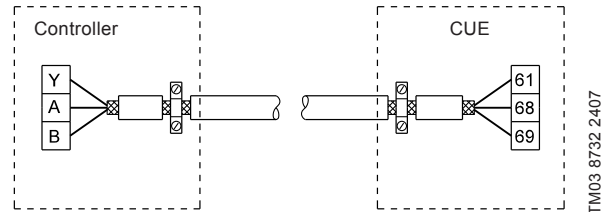

Fig. 47 Example of connection of a 3-conductor bus cable with screen connected at both ends
- Connect the screen to frame at both ends for both motor and signal cables. See fig. 47. If the controller has no cable clamps, connect only the screen to the CUE. See fig. 48.